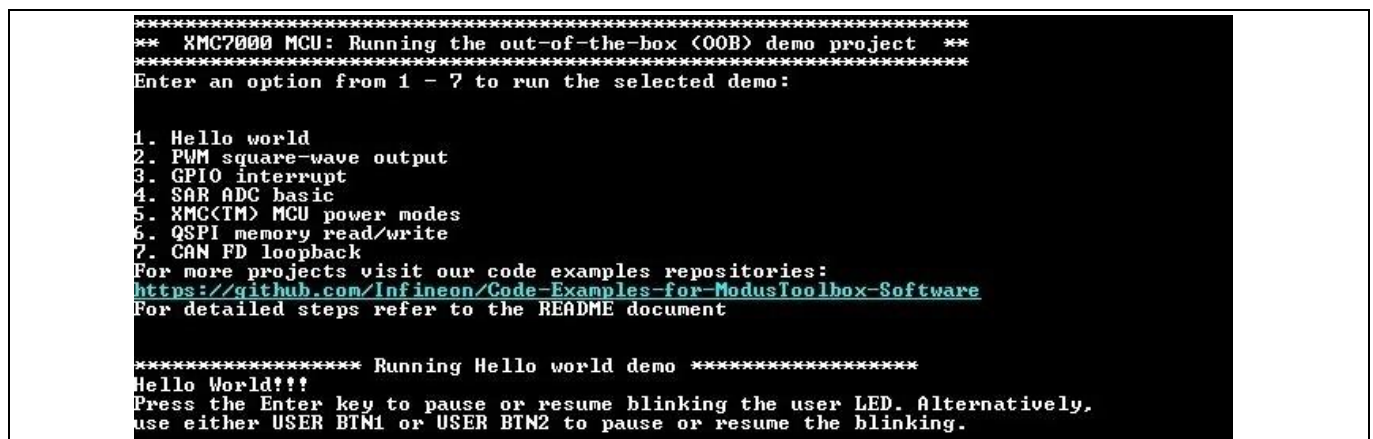

Figure 14 OOB demo project message in the terminal
- Press the reset button (SW1) on the board and confirm that terminal application displays the code example title and other text as shown in Figure 14.
- Select the options from 1 to 7 as shown in Figure 14 to run the selected demos.